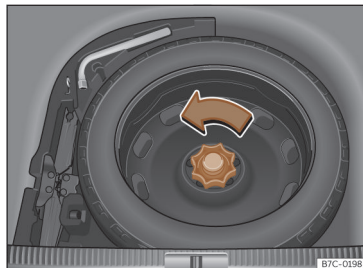

Fig. 239 In the luggage compartment: load floor raised.
- Turn the thumb wheel anticlockwise >>> **Fig. 239**.